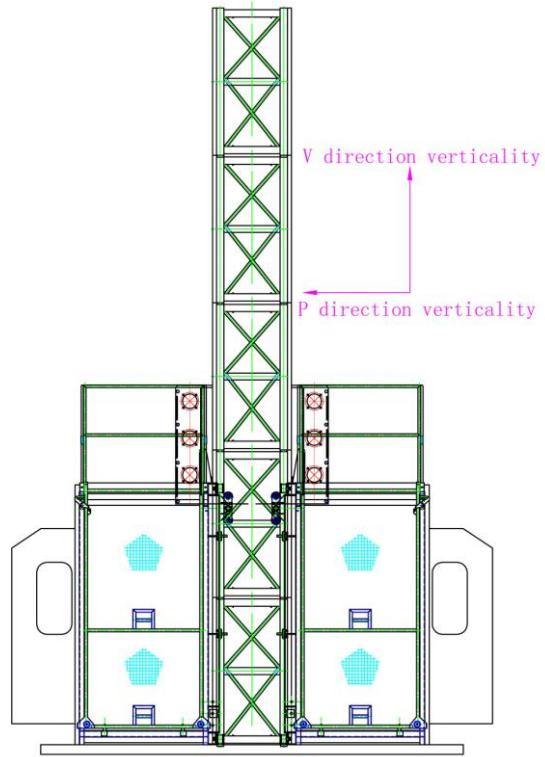

Figure 6
4.4.6 When the driver bracket is finished, the next step is two mast sections. (See figure 6)
4.4.7 Check the verticality of guide rail bracket with theodolite, In the two mutually perpendicular direction errors are not exceed 5mm. (see figure 6)
4.4.8 If the verticality meets the requirement, then the foundation can be fixed by holding down bolt. (See figure 6)